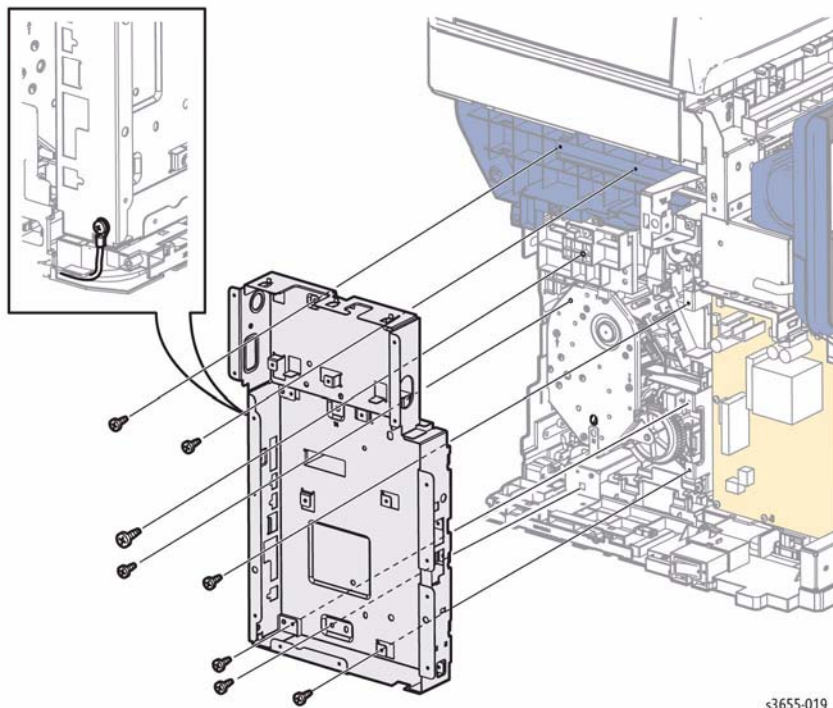

Figure 2 Remove the ESS Housing
11. Refer to Figure 2 to remove 7 screws (silver, M3, 6mm) and 1 ground connection that secure the ESS housing to the chassis.